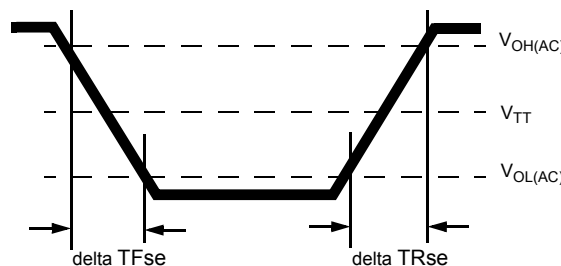

Figure 6. Single-ended Output Slew Rate Definition
With the reference load for timing measurements, output slew rate for falling and rising edges is defined and measured between VOL(AC) and VOH(AC) for single ended signals as shown in Table 16 and Figure 6.